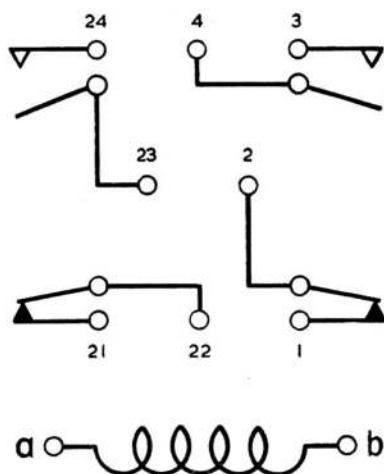

Fig. 2. Diagram of contacts and coil connections and references
4. A single-wound coil is located between the armature and the short end of the pole-piece. When the coil is not energized, the movable contacts "make" with the bottom fixed contacts, and the upper contacts are opened. When the coil is energized, the armature moves and the movable contacts "make" with the upper fixed contacts while the bottom contacts open. A diagram of the contacts and coil connections and references is illustrated in fig. 2.